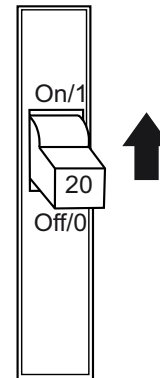

Figure 52. GFCI Circuit Breaker
2. Place the **GFCI circuit breaker** (Figure 52) in the **ON** position.